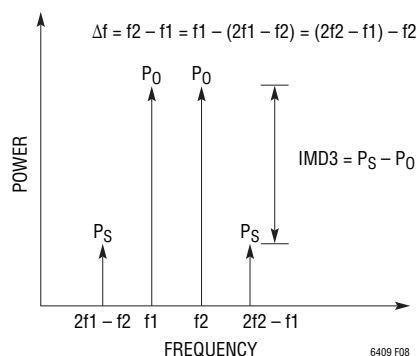
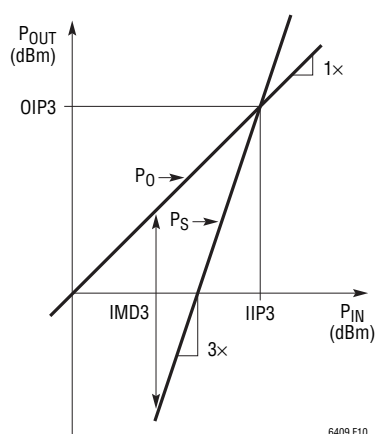

Figure 8. Definition of IMD3
Figure 9. Graphical Representation of the Relationship between IMD3 and OIP3
The definition of 3rd order intermodulation distortion (IMD3) is shown in Figure 8. Also, a graphical representation of how to relate IMD3 to output/input 3rd order intercept points (OIP3/IIP3) has been depicted in Figure 9. Based on this figure, Equation (4) gives the definition of the intercept point, relative to the intermodulation distortion.
$P_0$  is the output power of each of the two tones at which IMD3 is measured, as shown in Figure 9. It is calculated in dBm as: